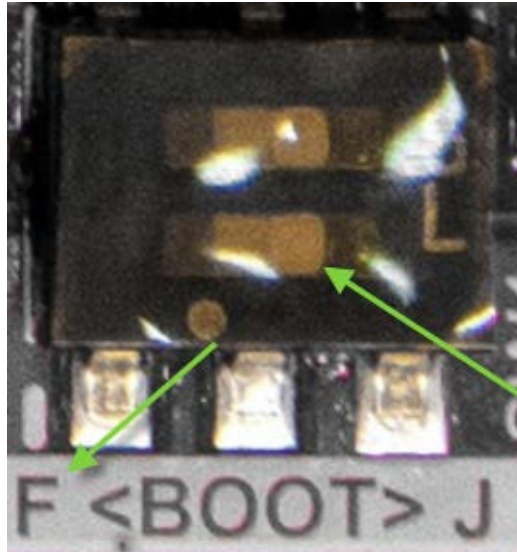

Figure 25 - Untouched Boot Switch
- a. Note: From the Factory the switch's protective film should be removed and already set to F. If it is not, the switch will look similar to Figure 25.